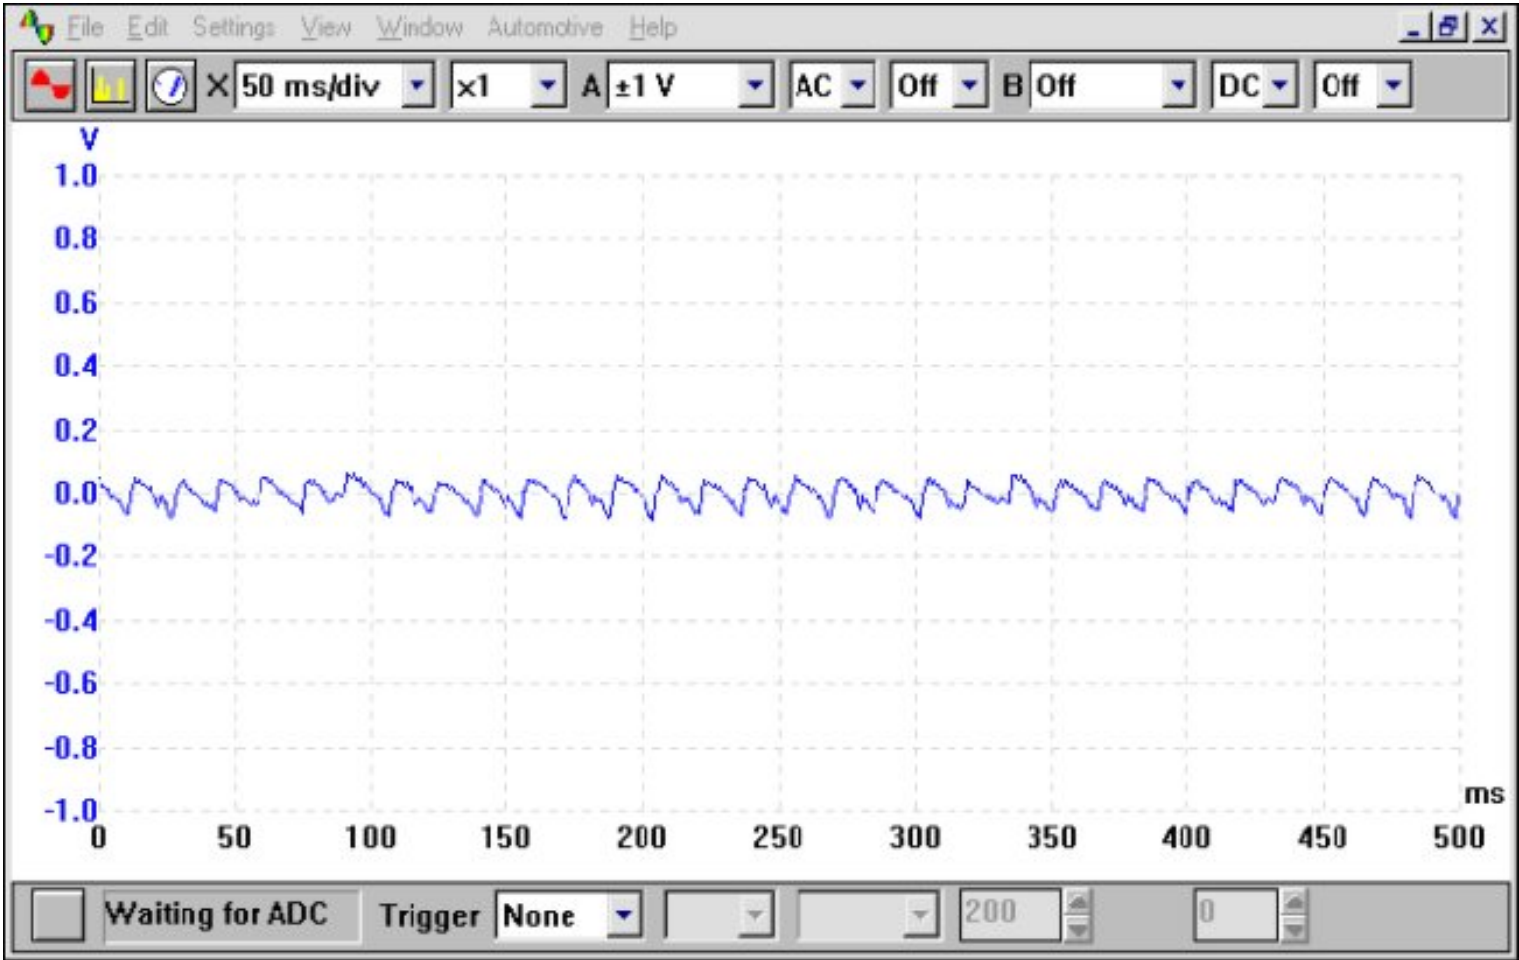

Figure 1.1
The ripple on this waveform (Fig 1.1) shows that the output is correct and that there is no fault within the phase windings or the diodes (rectifier pack), also illustrating that the three phases from the alternator have been rectified to Direct Current (DC) from its original Alternating Current (AC) and that the three phases that contribute towards the alternator's output are all functioning.
The example waveform below (Fig 1.1) illustrates the rectified output from the alternator.